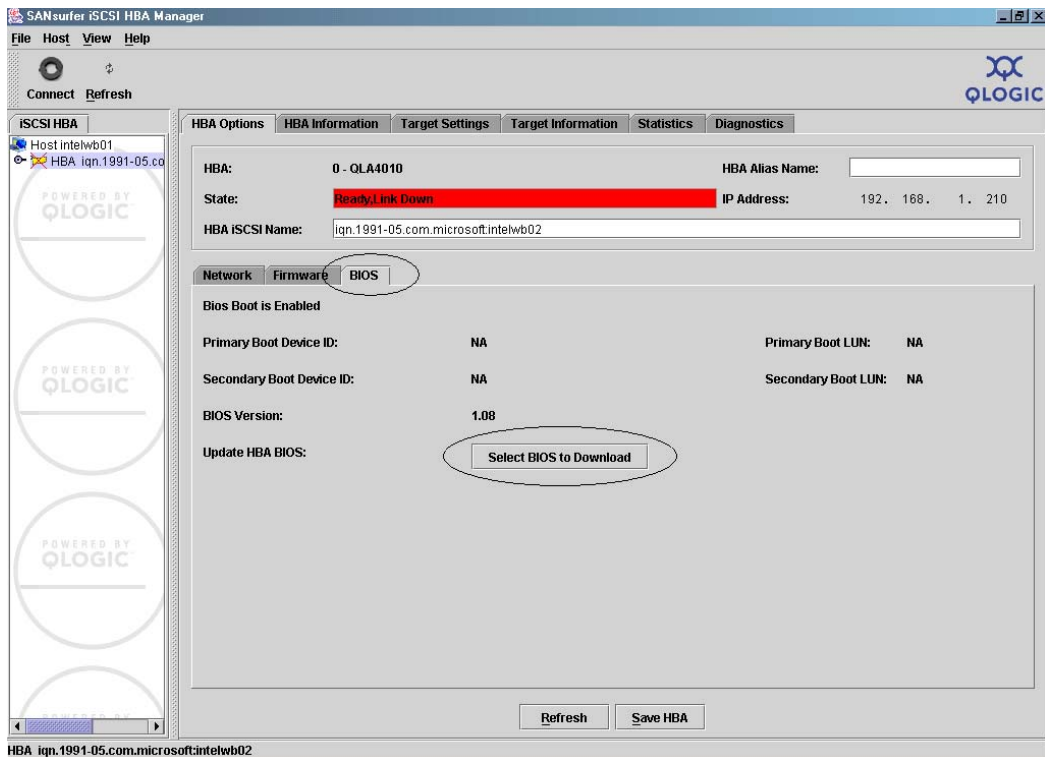

Figure 58 SANsurfer iSCSI HBA manager, HBA options, BIOS tab
- ◆ Boot BIOS for the iSCSI HBA can be loaded in a similar fashion. From the **SANsurfer iSCSI HBA Manager, HBA Option** dialog, click the **BIOS** tab, as shown in Figure 58.